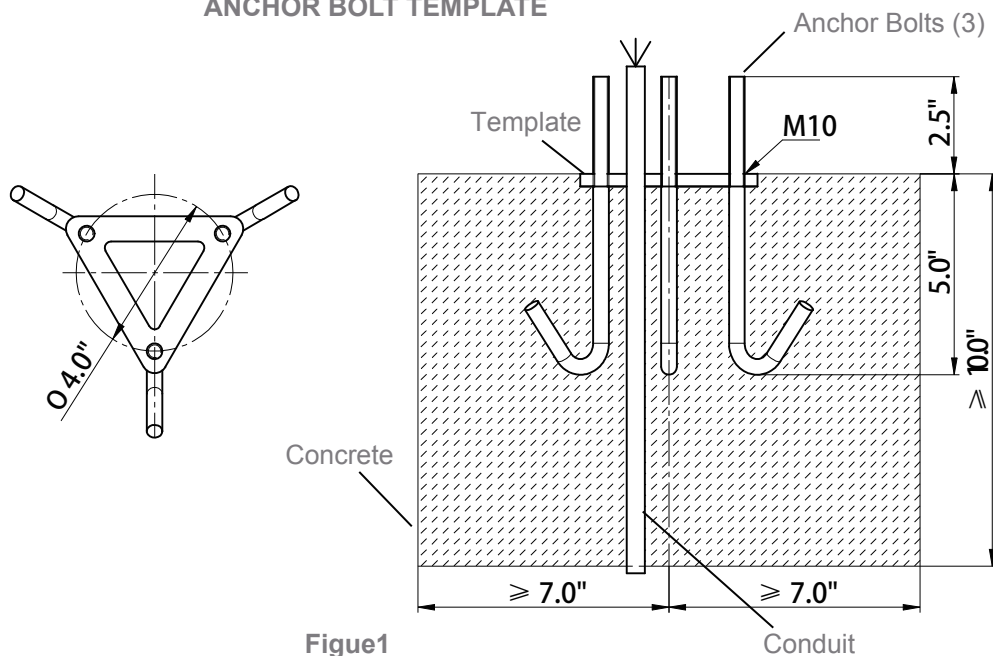

Figure1
2. Install Anchor Bolts (3) with Template (1) (order separately or customer supplied) into concrete, having at least 2 3/8" protruding from concrete with threads free and clear of debris and dirt. See Figure 1.